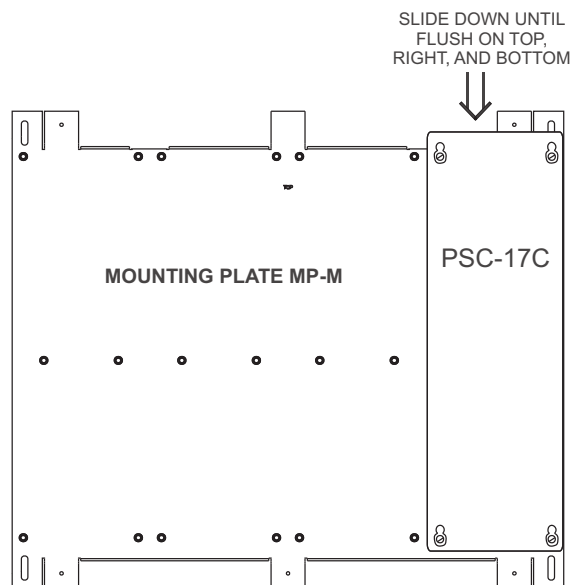

Figure 6
- Place the PSC-17C over the four screws on the Mounting Plate and slide it down or towards you to rest on the four screws. (Refer to Figure 6.) When the PSC-17C is in the correct position it will be flush with the top, bottom and right side of the Mounting Plate.